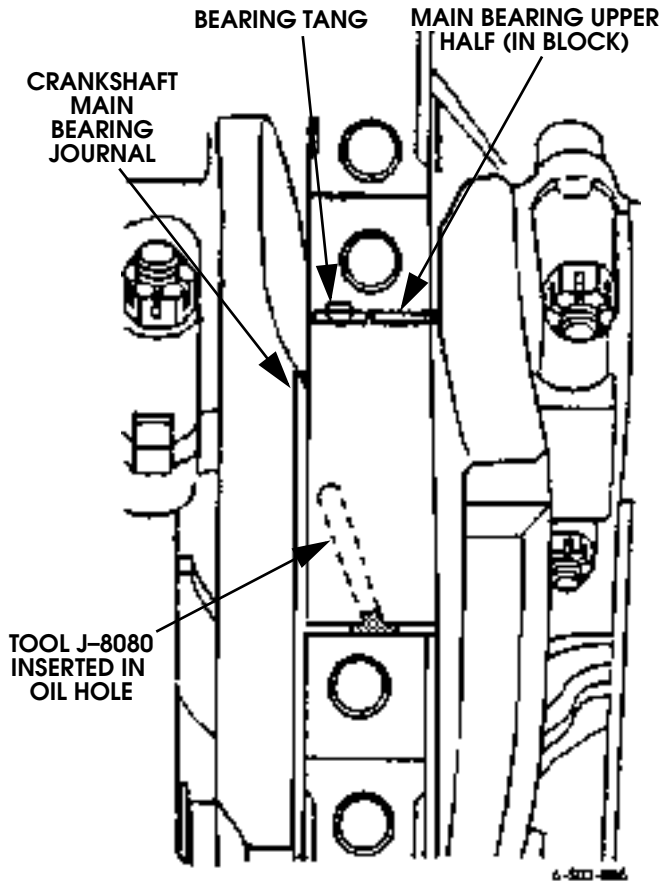

Figure 2-48: Removing/Installing Main Bearing Upper Half with Cotter Pin or Equivalent
- c. Insert tool J-8080 into oil hole in crankshaft bearing journal. Position "T"-end of tool against bearing upper half. Rotate crankshaft counterclockwise until tool pushes upper half of main bearing out of bearing saddle in block (Figure 2-48).
- e. Start plain end of new upper bearing half into place by hand. Then push bearing into position with tool J8080. Be sure bearing tang is seated in notch in bearing saddle of block (Figure 2-48).